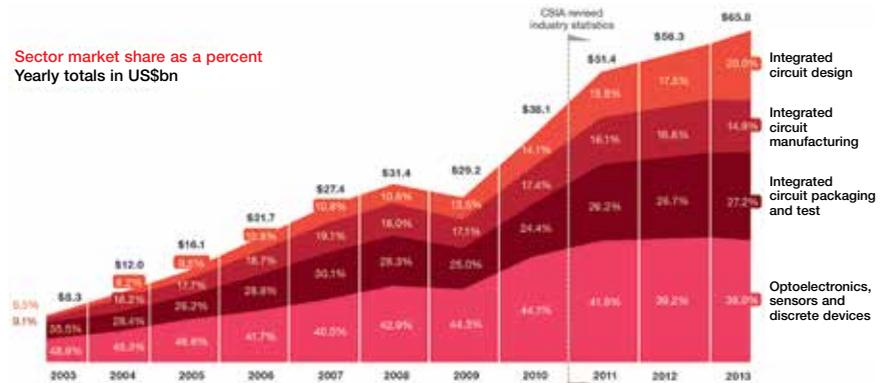

Figure 2. China's semiconductor industry by sector, 2003-2013.
Integrated circuit (IC) design continues to be the fastest growing segment of China's semiconductor industry, growing by 33% in 2013 to reach record revenues of US\$13.2bn. During the past ten years (2003-2013), China's IC design (fabless) industry has grown at a 37.6% CAGR from US\$541mn to US\$13.2bn (see Figure 2).